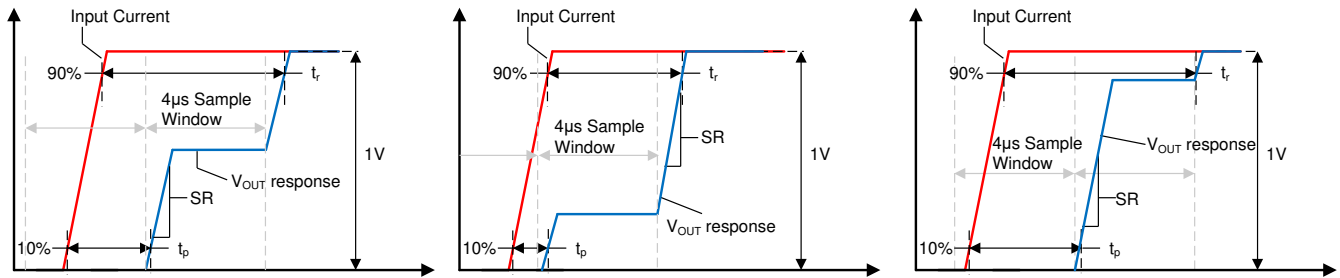

图 8-3. Small Current Input Step Transient Response
Slew rate (SR) is defined as the  $V_{OUT}$  rate of change for a single integration step's output transition, as shown in 图 8-3. Because the device often requires two sampling windows to reach a full 90% settling of its final value, this slew rate is not equal to the 10%-90% transition time for the full output swing.
Propagation delay is the time period between the input current waveform reaching 10% of its final value and  $V_{OUT}$  reaching 10% of its final value. This propagation delay is heavily dependent upon the alignment of the input current step and the sampling period of the TMCS1101-Q1, as shown for several different sampling window cases in 图 8-3.
Response time is the time period between the input current reaching 90% of its final value and the output reaching 90% of its final value, for an input current step sufficient to cause a 1-V transition on the output. 图 8-3 shows the response time of the TMCS1101-Q1 under three different time cases. Unless a step input occurs directly during the beginning of one sampling interval the response time will include two sampling intervals.